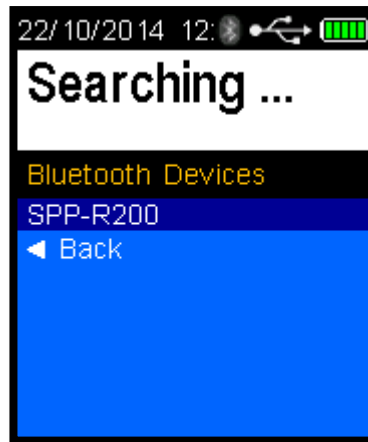

Figure 85 Printer Identified
- When the LE5 identifies the printer, the printer type will be displayed, e.g., "SPP-R200" (Refer Figure 85).